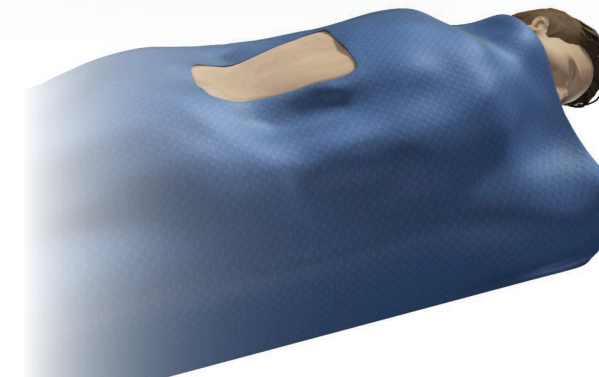

Figure 1
- The patient is positioned in the prone position, and the appropriate surgical site is identified. Preoperative planning is critical in the preparation for spinal surgery and lateral fluoroscopy should be utilized to determine the precise implant size and intraoperative positioning (Figure 1).